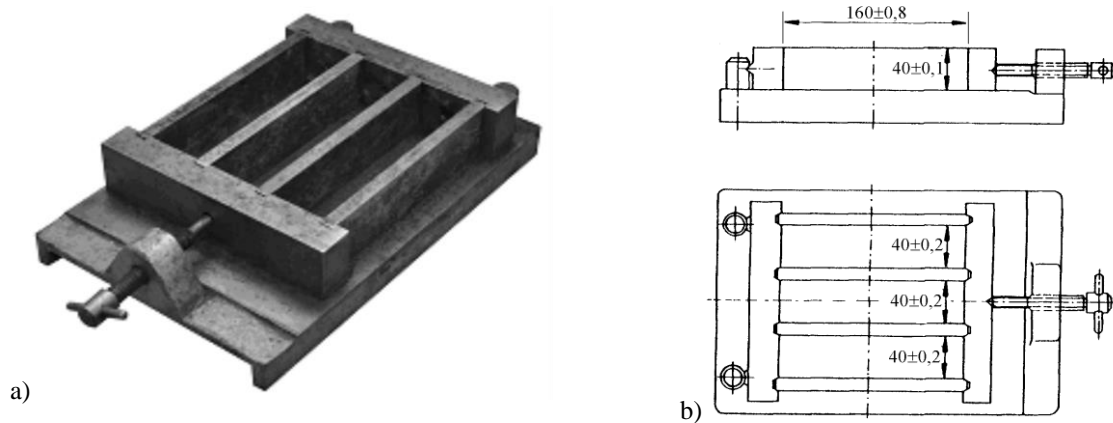

Fig. 1 The mold for preparing bars: a) general view; b) schema and dimensions
- **Mold** for cement bars (Figure 1);